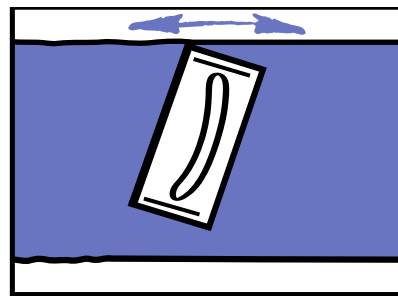

FIGURE 63 Sanding
- > Lightly sand to a smooth even surface using 180 to 220 grit sandpaper or sanding mesh. [Figure 63]